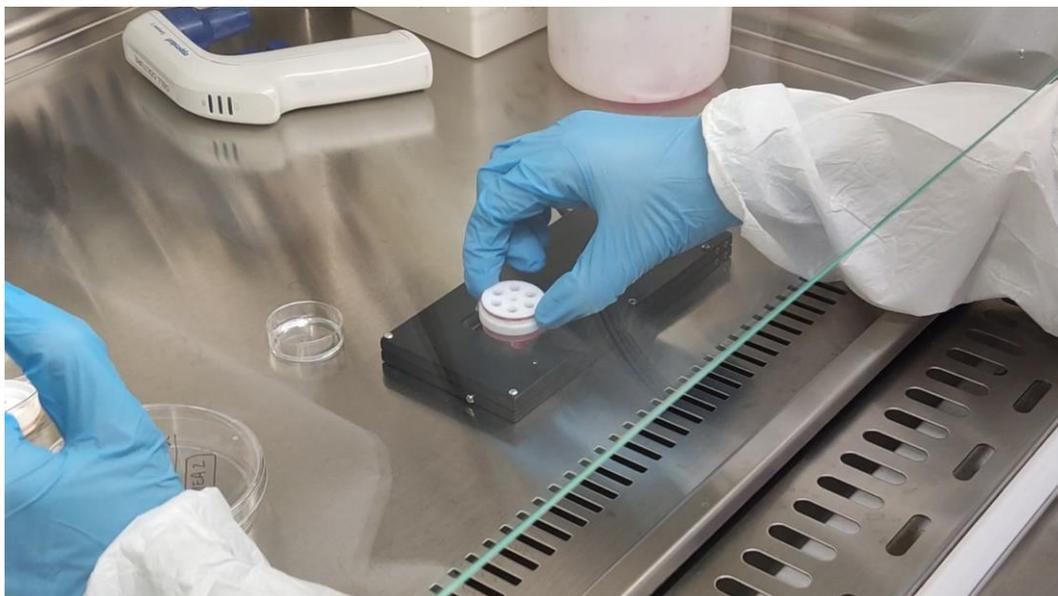

Figure 3: the operator places the cap on the top of the MEA. The whole procedure is performed under sterile conditions.
5. Place a compatible cap on the MEA ring for preserving sterility, as shown in Figure 3.